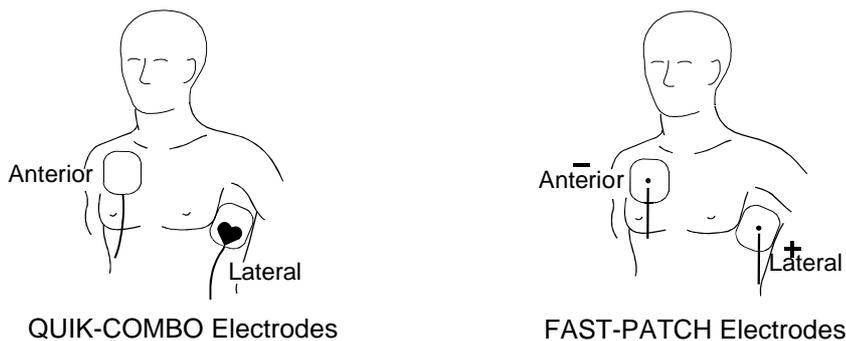

Figure 3-1 Anterior-lateral position
- Place the ♥ or + electrode lateral to the patient's left nipple with the center of the electrode in the midaxillary line, if possible. (See Figure 3-1.)
- Place the other electrode on the patient's upper right torso, lateral to the sternum and below the clavicle as shown in Figure 3-1.